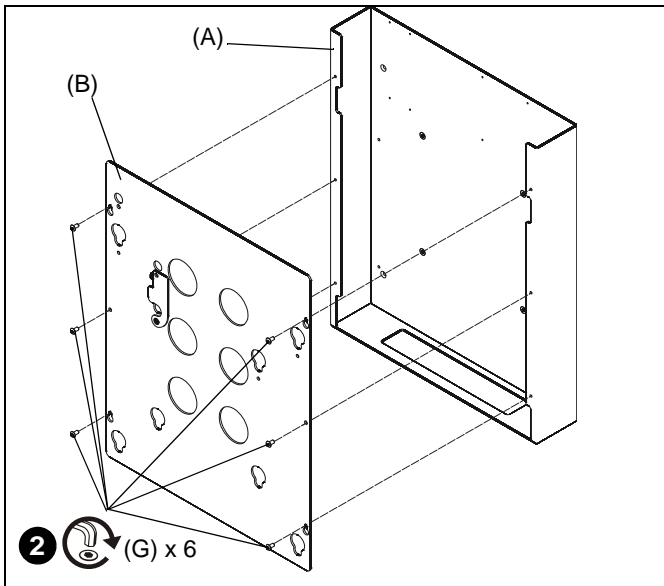

Figure 3
1. Use six #10-24 x 3/8" button head cap screws (G) to attach face plate (B) to CPU box (A). (See Figure 3)